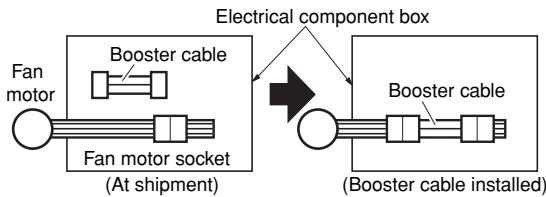

Fig. 3-75
- (1) Remove 4 screws on the electrical component box and remove the cover plate.
- (2) Disconnect the fan motor sockets in the box.
- (3) Take out the booster cable (sockets at both ends) clamped in the box.
- (4) Securely connect the booster cable sockets between the disconnected fan motor sockets in step 2 as shown in Fig. 3-75.
- (5) Place the cable neatly in the box and reinstall the cover plate.